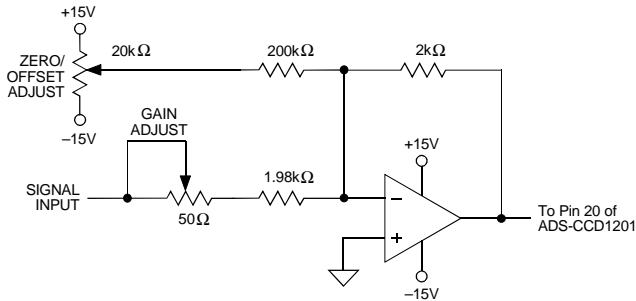

Figure 2. ADS-CCD1201 Calibration Circuit
Bypass all power supplies, as well as the REFERENCE OUTPUT (pin 21), to ground with 4.7µF tantalum capacitors in parallel with 0.1µF ceramic capacitors. Locate the bypass capacitors as close to the unit as possible. If the user-installed offset and gain adjusting circuit shown in Figure 2 is used, also locate it as close to the ADS-CCD1201 as possible.
- ADS-CCD1201 achieves its specified accuracies without external calibration. If required, the device's small initial offset and gain errors can be reduced to zero using the input circuit of Figure 2. When using this circuit, or any similar offset and gain-calibration hardware, make adjustments following warmup. To avoid interaction, always adjust offset before gain.
(Refer to Figures 2 and 3)
Any offset and/or gain calibration procedures should not be implemented until devices are fully warmed up. To avoid interaction, offset must be adjusted before gain. The ranges of adjustment for the circuit of Figure 2 are guaranteed to compensate for the ADS-CCD1201's initial accuracy errors and may not be able to compensate for additional system errors.
All fixed resistors in Figure 2 should be metal-film types, and multi-turn potentiometers should have TCR's of 100ppm/°C or less to minimize drift with temperature. In many applications, the CCD will require an offset-adjust (black balance) circuit near its output and also a gain stage, presumably with adjust capabilities, to match the output voltage of the CCD to the input range of the AID. If one is performing a "system I/O calibration" (from light in to digital out), these circuits can be used to compensate for the relatively small initial offset and gain errors of the A/D. This would eliminate the need for the circuit shown in Figure 2.